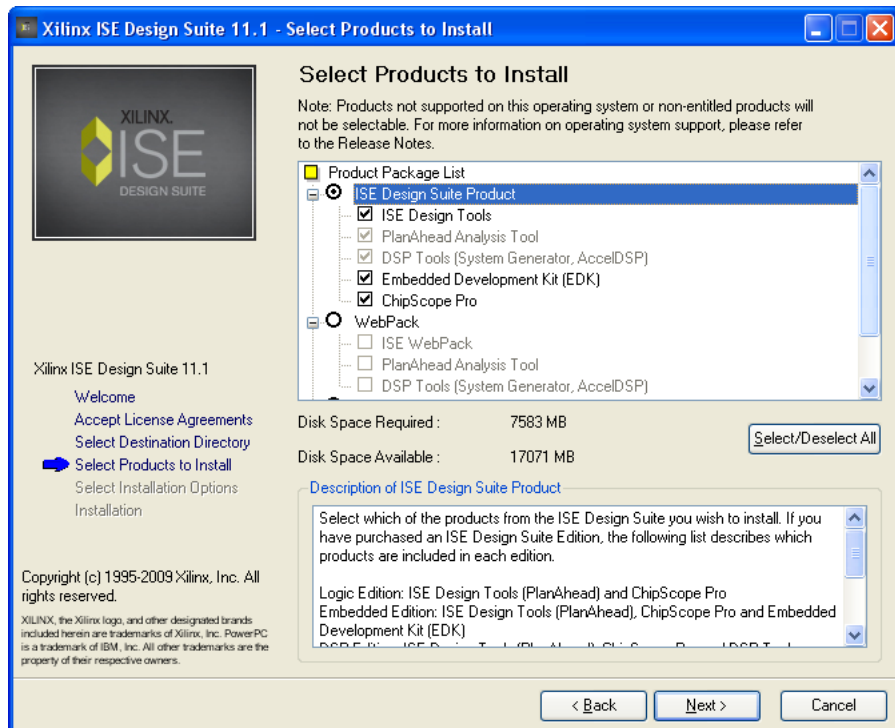

Figure 11: ISE Design Suite Installer
- Follow the steps presented by the installer (Figure 11)
- Make sure you select the ISE Design Suite Product including the ISE Design Tools, Embedded Development Kit (EDK), and ChipScope Pro for installation as shown in Figure 11